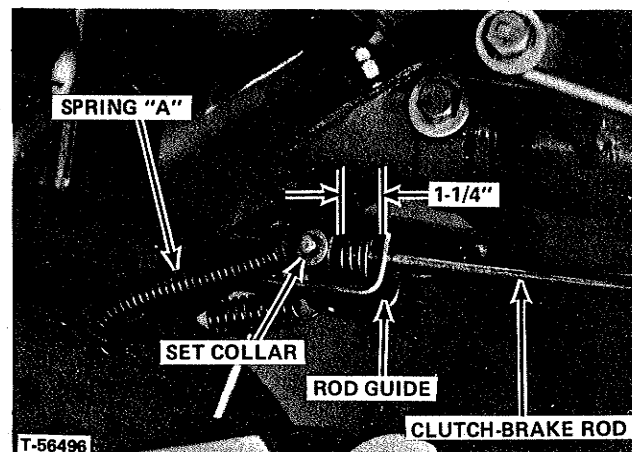

FIGURE 8 - R.H. Side
3. See Figure 8. Grasp the top of the clutch brake pedal and pull upward and rearward as far as it will go and hold it there. There should now be 1-1/4 inch clearance between rear face of rod guide and forward face of set collar as shown. If dimension is not 1-1/4 inches, unhook spring "A" from setscrew. Loosen setscrew and move collar to obtain the 1-1/4 inch dimension when clutch-brake pedal is held fully back as far as it will go. Tighten set collar and replace spring "A".